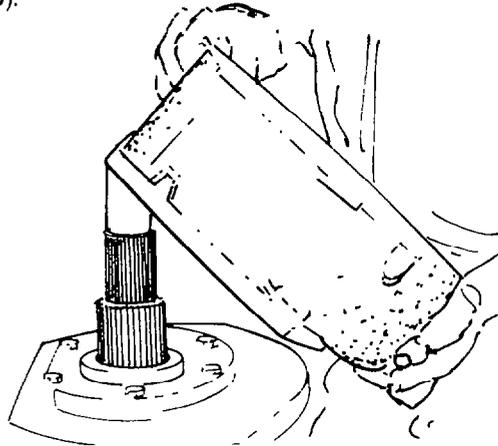

Fig. 225 — Removing Front Drive Housing
- m. Remove the front drive housing retaining bolts and nuts and carefully remove the front drive housing (see fig. 225).